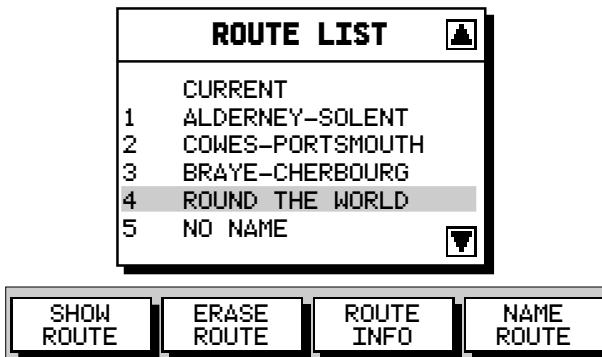

Figure 3-32: Route List and Soft Keys
The Route List is displayed with the selected route highlighted as shown in *Figure 3-32*.
1. From plotter mode, press the ROUTE soft key, followed by MORE, then ROUTE LIST. The Route List is displayed with the selected route highlighted, see *Figure 3-32*.
1. Press the ROUTE soft key, followed by MORE, then press ROUTE LIST. The Route List is displayed. The selected route is highlighted, see *Figure 3-32*.